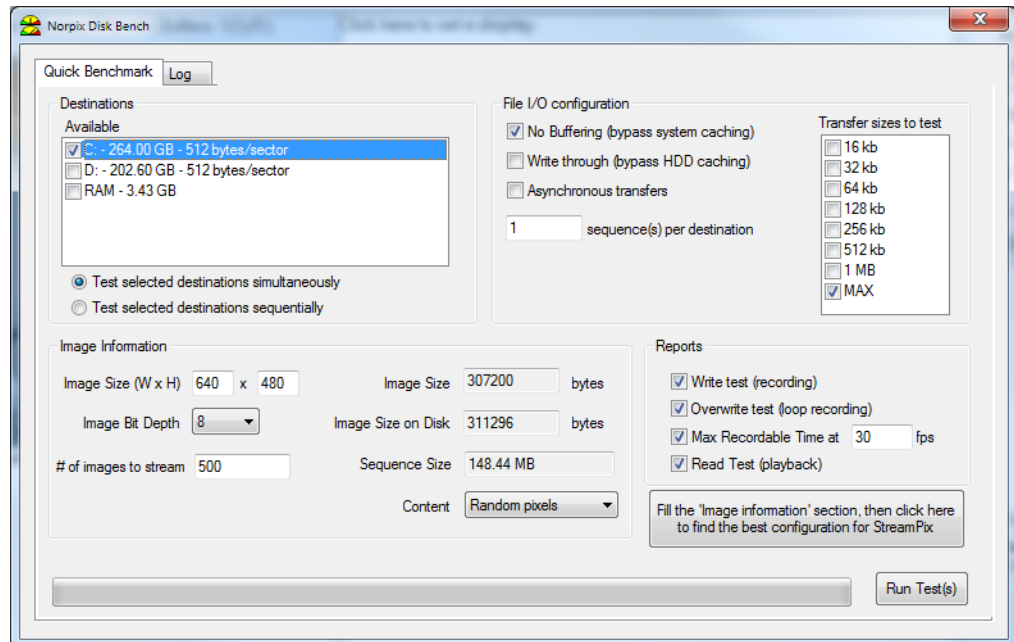

Figure 10-1: Disk Benchmark utility
1. Select the Disk Benchmarking toolbutton. The utility dialog opens. See Figure 10-1.